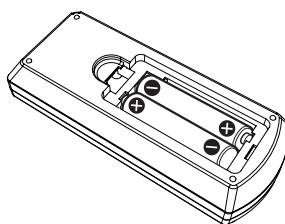

Fig. 2
- 2) **Insert batteries and close the cover. (Insert the  side first.) (Fig. 2)**